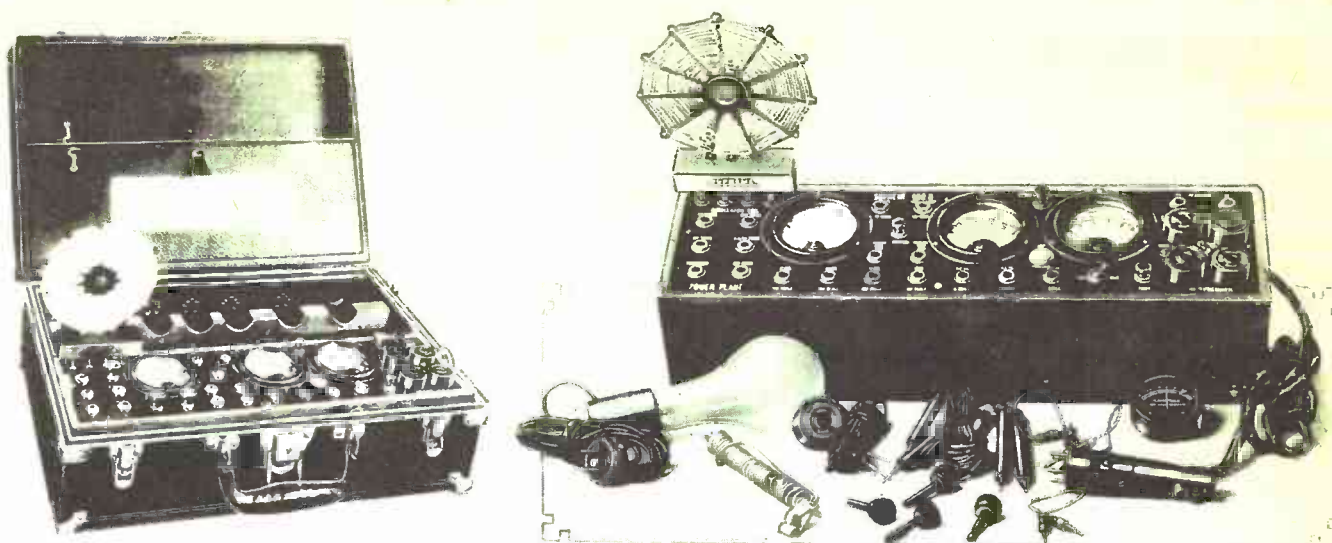

Fig. 1. - The Supreme Diagonometer is one of the most completely equipped testing apparatus available to the Service Man.
(3) Miscellaneous Parts: Assorted grid suppressors; center-tapped filament resistors; by-pass and filter condensers; variable high resistors; grid leaks; replacement A.F. transformer; phonograph pick-up adapter; rheostats; hook-up wire; a roll of bell wire; milenite tacks; insulated staples; replacement sockets; tube shield; trimming condensers; neutralizing condensers; tube adapters; R.F. choke; R.F. transformer; open and closed circuit jacks; filament switches; S.P.D.T. switches; phone plug; binding posts; soldering lugs; lock washers; assorted screws; aerial insulators; lead-in screweyes, hooks and insulators; lead anchors; filament ballasts; pilot lights; ground clamps; lead-in strips; lightning arrester; phone cord; 6 or 7-wire battery cable; battery clips, large and small; small knobs; cone apexes; complete set of various tubes; dummy neutralizing tubes; 45-volt "B" batteries; "C" battery.
(4) Instruments: One radio set analyzer, one hydrometer, one speaker unit, one head-set or single receiver, one audio-modulated R.F. oscillator, one resonance indicator.
(5) The Radio Set Analyzer. This is one instrument that every Service Man should have, as it will permit the complete analysis of any type of radio set. There are several set analyzers or testers on the market, among which we find the Jewell, Hickok and Weston, and the Supreme Radio Diagonometer. Complete instructions on the operation and use of these instruments are furnished by the manufacturers and therefore we will describe their use here briefly.
(6) Each of these analyzers is in the form of a portable carrying case, as illustrated in Fig. 1, with a small compartment for carrying tools and miscellaneous parts for making minor repairs. They are more or less complete, having measuring instruments with multiple scales whereby, through switching arrangements, a rapid diagnosis of a radio set can be made. The analyzer can be used for measuring plate current of each individual tube, plate voltage, grid voltage, filament voltage, screen-grid voltage, power supply voltage, approximate resistance values, approximate capacity values, continuity tests.
(7) These measurements can be made with the tube in or out of the circuit. For example, by removing a particular tube from the set and placing it in the socket of the analyzer, and placing the plug connection of the analyzer in the empty socket of the set, measurements of actual operation conditions can be made while the set is in operation. Such a test on each tube of the set will soon reveal any defect.
(8) The Supreme Diagonometer. In addition to the above, this instrument contains a modulated radio-frequency oscillator for use in balancing R.F. amplifier circuits and also a resonance indicator. In effect, it is virtually a complete portable radio laboratory. This instrument was fully described in the February, 1930, issue of RADIO-CRAFT.